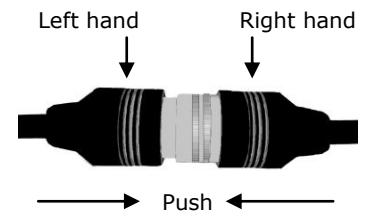

Figure 5: Connecting
4. Connect the tray to the control box by holding the black connectors on each cable and gently pressing together while rotating until a "click" is heard. (See Figure 5.)